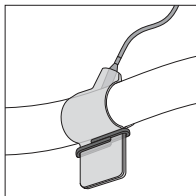
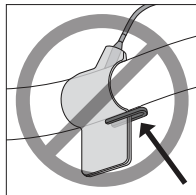

Figure 7 (Small clips shown, coverage of other clip sizes may vary)
Figure 8
- Ensure the clip is snug against the edge of the strap (See Figure 7). A clip extending off the strap can cause signal interruptions (See Figure 8).
4. To ensure consistent contact between the probe and the vessel, a second clip may be applied distal to the first clip, on the opposing edge of the strap (See Figure 7).